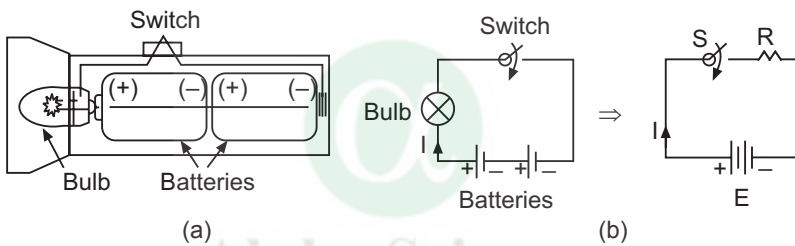

Fig. 1.1 (a) Electric torch (b) Circuit diagrams
- 1. Electric Circuit:** Electric circuit is a closed conducting path. To understand the concept of a circuit, observe the inner parts of an electric torch shown in Fig. 1.1(a).
It consists of two batteries or cells, a bulb and a switch (SPST, single-pole and single-throw). The circuit diagrams are shown in Fig. 1.1(b). If the switch (S) is closed, the circuit will be completed, current (I) flows from the batteries to the lamp and thus the lamp glows.